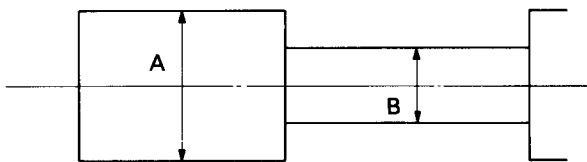

Fig. 15 Envelope Output and Output Level Difference
1. Make recordings on E-120 and E-180 tapes, and make sure the playback output envelope meets the specification as shown in Fig. 15.
2. Playback a self recorded tape (recording made on this unit), (with a E-120) the video envelope should meet the specification as shown in Fig. 15.